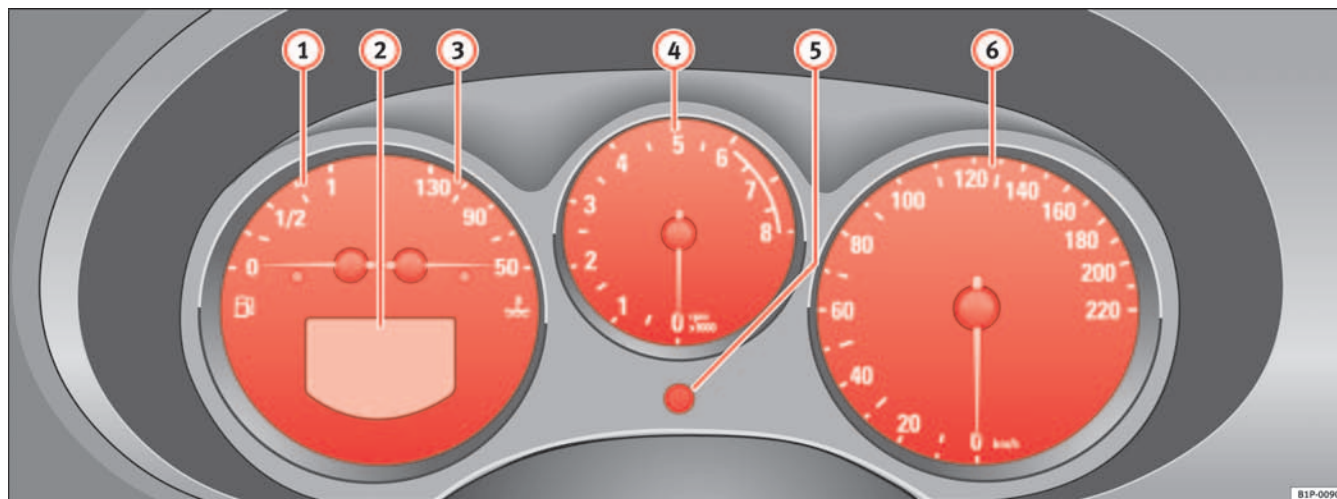

Fig. 33 Detail of the dash panel: Instruments
The start of the red zone on the dial ⇒ page 56, fig. 33  indicates the maximum engine speed which may be used briefly when the engine is warm and after it has been run in properly. However, it is advisable to change up a gear or move the selector lever to D (or lift your foot off the accelerator) before the needle reaches the red zone.
- Turn the setting knob ⇒ page 56, fig. 33  anti-clockwise to the stop to set the hour. If the knob is turned briefly anti-clockwise the clock will advance one hour further.
The right-hand counter registers the short journeys. The last digit indicates steps of 100 metres. The trip recorder counter may be reset by the reset button ⇒ page 56, fig. 33 ⑥.